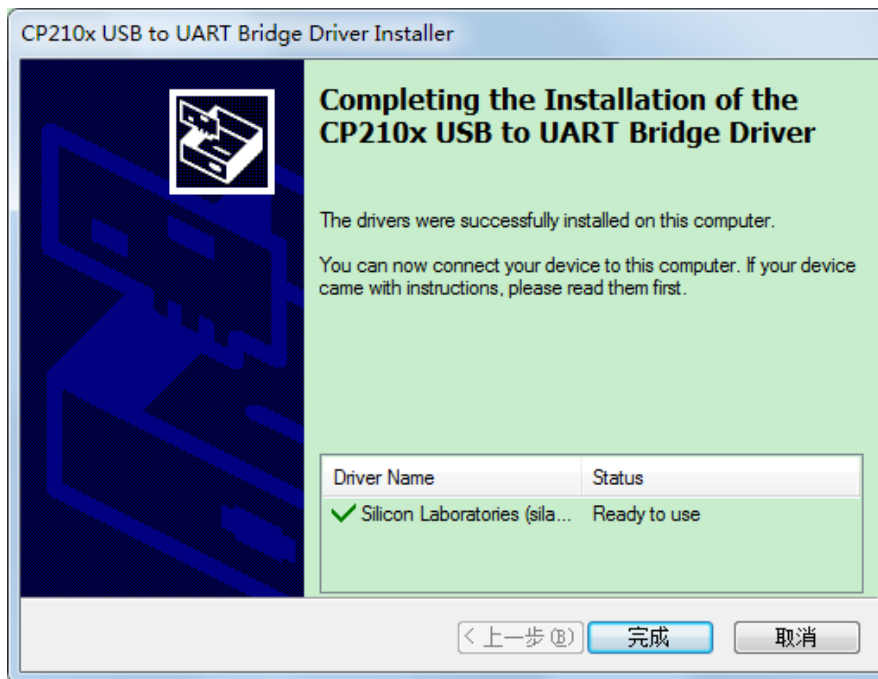

Fig. 4-9 Pop-up window for USB installation complete
9. Upon USB driver installation, an installation complete window as shown in Fig. 4-9 will pop up.